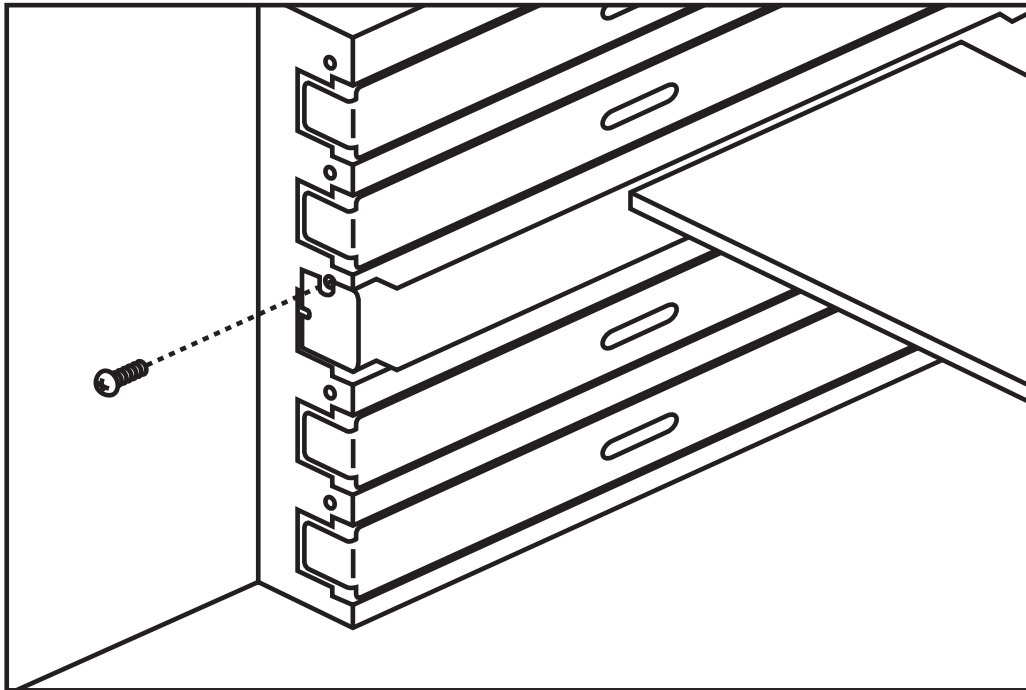

Figure 3-4. Securing the NIC with screws.
6. Replace the system's cover and secure it with the screws you removed in Step 2. See Figure 3-4.